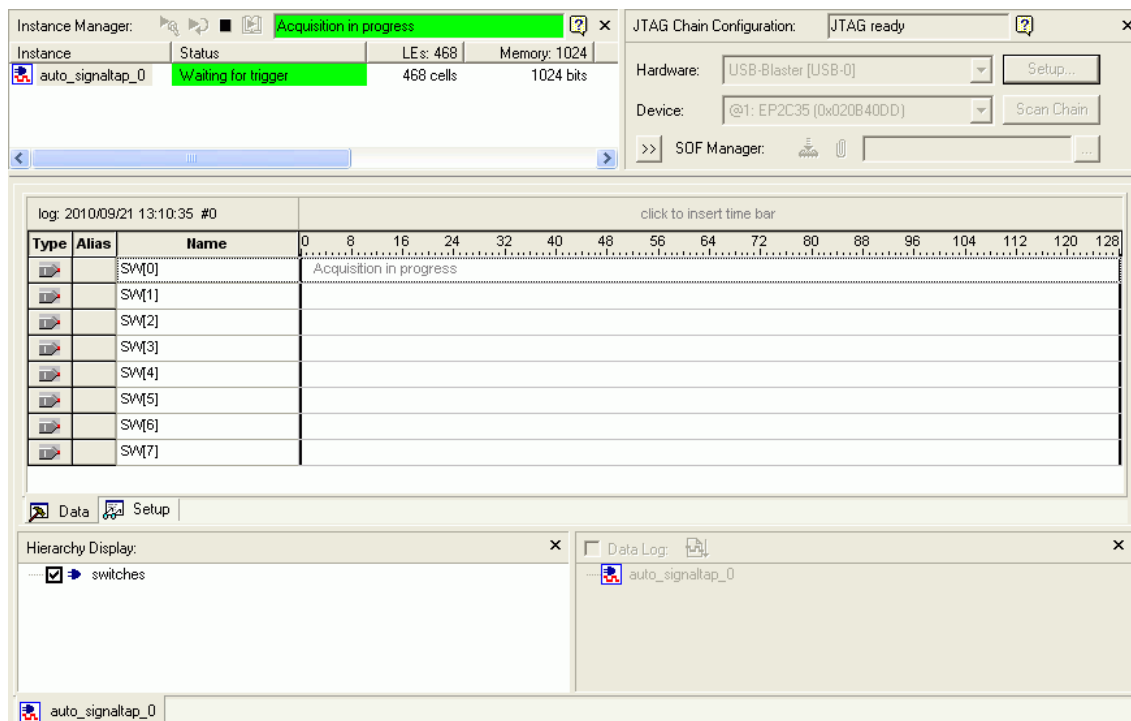

Figure 11. SignalTap II window on a DE-series board after Run Analysis has been clicked.
- Before the SignalTap analyzer can work, we need to specify what clock is going to run the SignalTap module that will be instantiated within our design. To do this, in the Clock box of the Signal Configuration pane of the SignalTap window, click ..., which will again bring up the Node Finder window. Select List to display all the nodes that can be added as the clock, and then double-click CLOCK\_50, which results in the image shown in Figure 11. Click OK.
2. In the SignalTap window, select Processing > Run Analysis or click the  icon. Then, click on the Data tab of the SignalTap II Window. You should get a screen similar to Figure 11. Note that the status column of the SignalTap II Instance Manager pane says "Waiting for trigger." This is because the trigger condition (Switch 0 being high) has not yet been met. (This is of course if Switch 0 is actually low as instructed in the previous step. If it is not, set it to low and then click Run Analysis again).